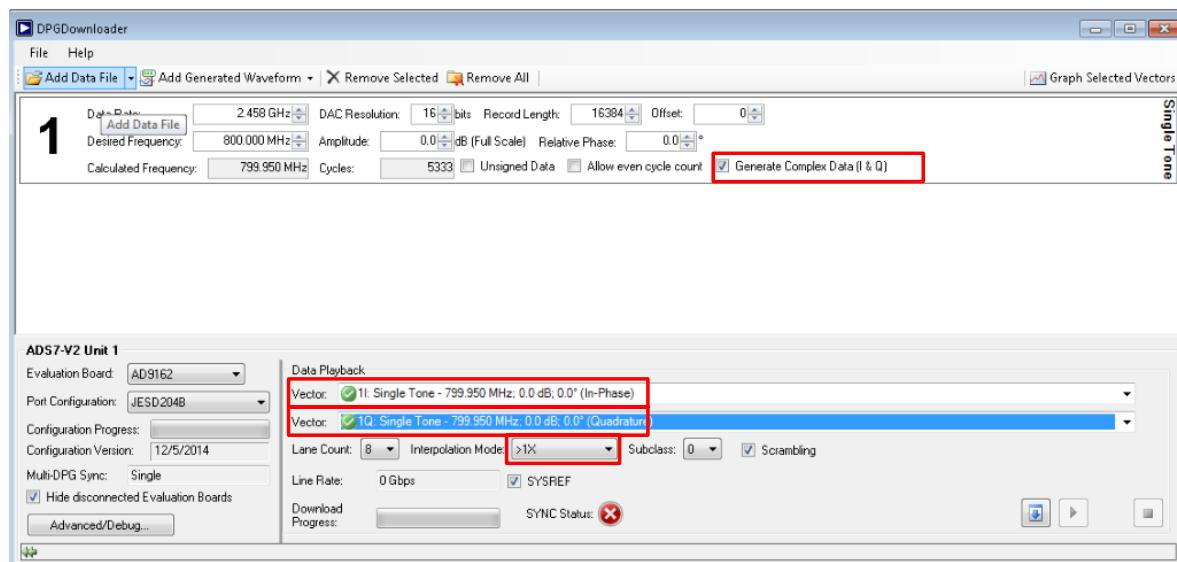

Figure 19. DPG Downloader when configured for interpolation ratio >1
12. If the interpolation ratio configured in the “AD916x\_Initial\_Worksheet.xlsx” is bigger than 1, DPG Downloader configuration shall be changed as well as shown in Figure 19. The data type is complex and interpolation mode is set to “>1x”.